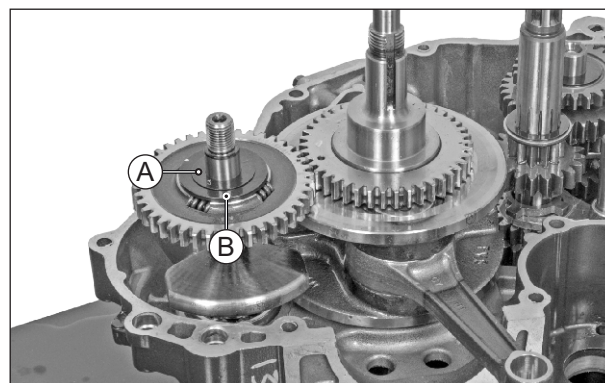

Fig. 3.142
- Take out shim (15x27x0.5) (A) and retainer spring (B) from the balancer shaft. (Fig. 3.142)